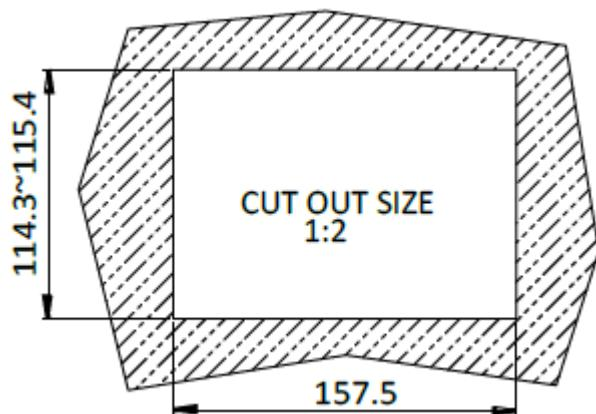

Figure 3-12: Panel Cutout Dimensions
- Step 2:** Cut out a section of the panel that corresponds to the rear panel dimensions of the PPC-F06B-BT. The recommended cutout sizes are shown below (Figure 3-12).